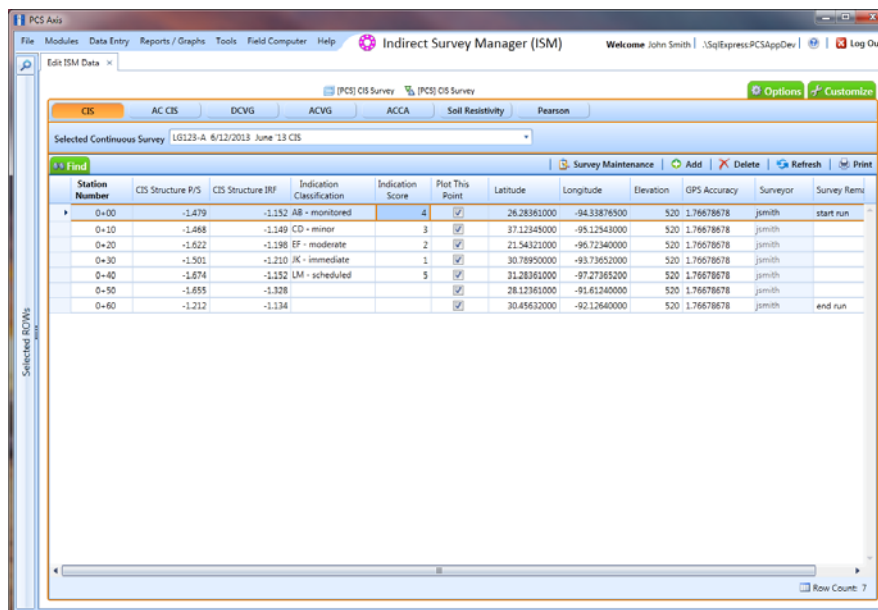

Figure 6-53. Edit ISM Data
- 3 Click **Data Entry > Edit ISM Data** to open the ISM data entry grid. Then click a button labeled with the type of continuous survey data you want to work with, such as the **CIS** button  (Figure 6-53).